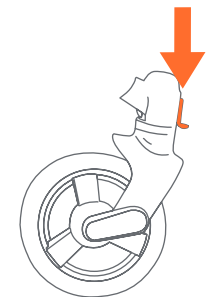

Fig. 11
- 11) • The front wheels are equipped with a swivel locking device. Push the button on each wheel up to engage the locks and push downward to disengage the locks (Fig. 11).